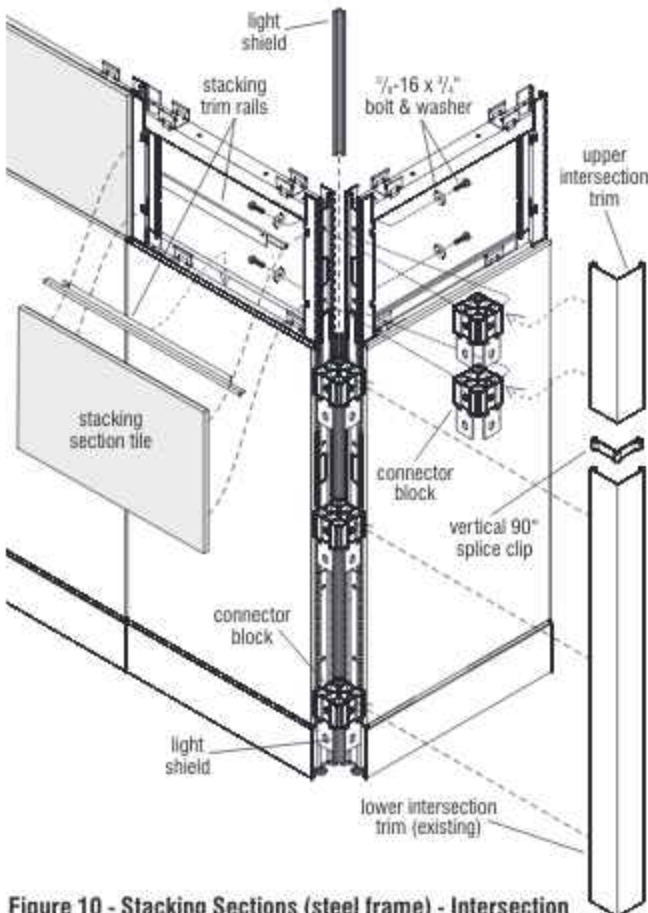

Figure 10 - Stacking Sections (steel frame) - Intersection
1. Loosely attach two connector blocks to one stacking section frame post at intersection. Use a 3/8-16 x 1 1/4" hex head bolt and large flat washer to attach one connector block to the lowest mounting hole in the post and one to the highest mounting location (Figure 10).
2. Loosely attach the second stacking section post to the two connector blocks on the first post using 3/8-16 x 1 1/4" hex head bolts and large flat washers (Figure 10).
3. Tighten all 3/8-16 x 1 1/4" hex bolts securing stacking section posts to connector blocks at the intersection (Figure 10).
5. Cut the 48" light shield to match the height of the stacking section. Using the cut light shield, position the bottom of the shield at the top of the pre-existing light shield. Snap the light shield into the corner of each connector block such that you hear a "click", ensuring that the light shield is snug at each connector block (Figure 10).
against the frame and lift such that the tabs of the stiffeners enter the P-slots. Push in and gently allow tile to nest down into the bottom trim channel (Figure 10).
3. If the stacking section tile is markerboard, hold the tile up, then center and nest the bottom of the tile into the bottom of the stacking trim rail. Push the top of the tile against the frame. Magnets will hold the tile against the frame (Figure 10).
4. Ensure each tile is installed securely and even onto the lower panels. Alignment along the top of adjacent stacking section tiles must be even for trim to fit properly (Figure 10).
1. Lower vertical corner intersection trim should be hung back onto the connector blocks, then a vertical 90° splice clip must be slid into the top of the intersection trim. Upper intersection corner trim then hangs onto the stacking section frame connector blocks and slides onto the top of the installed vertical 90° splice clip to keep it aligned (Figure 10).